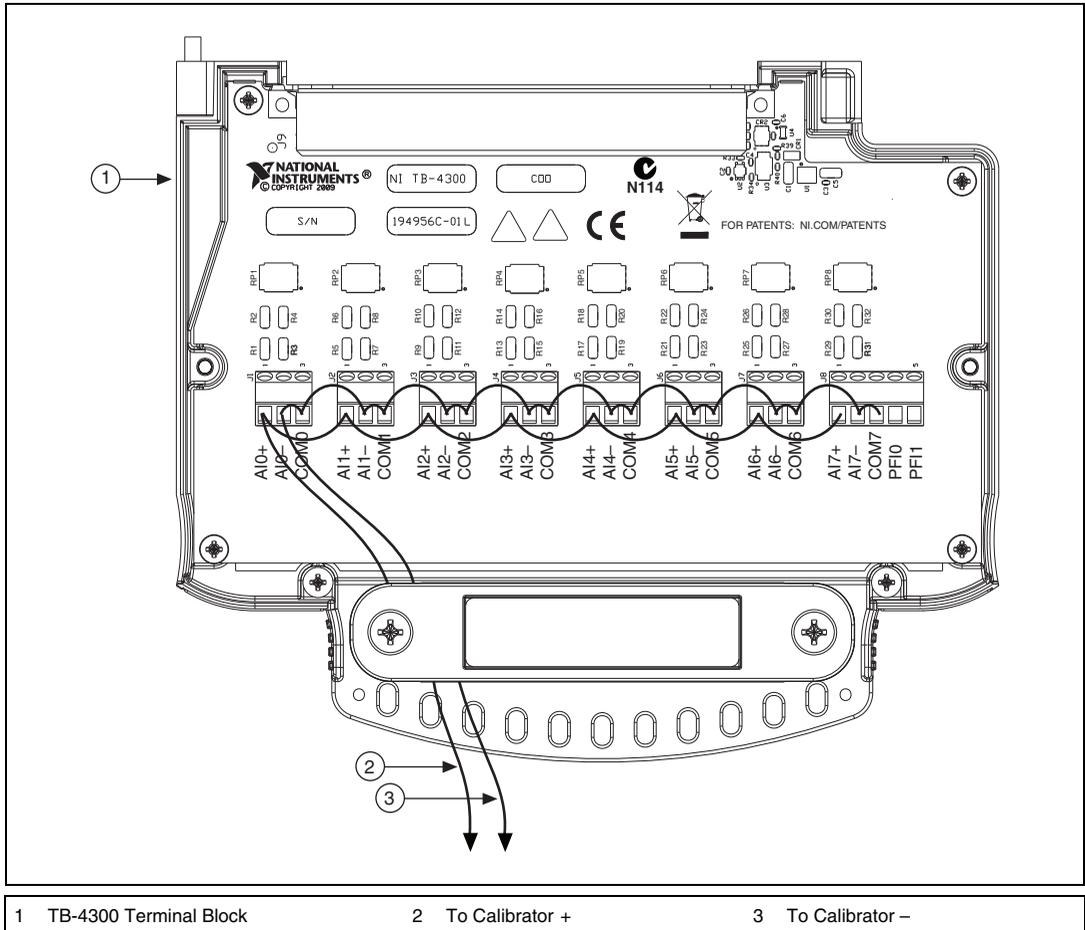

Figure 1. TB-4300 to Calibrator Wiring Diagram
1. Connect the output of the calibrator to the TB-4300 as shown in Figure 1.